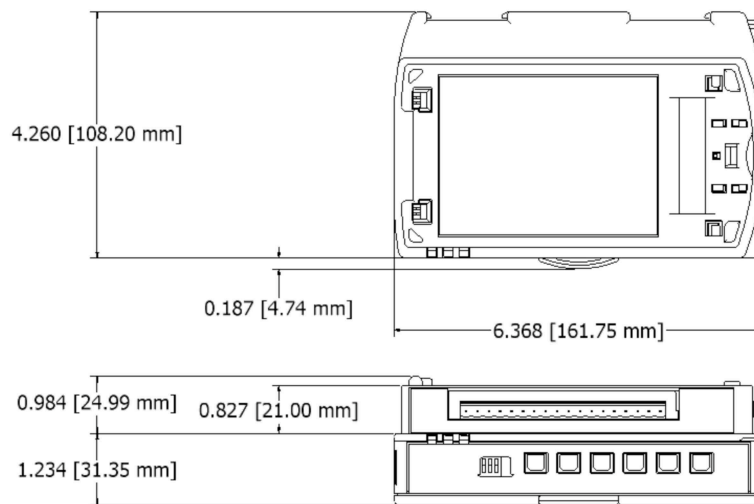

Figure 3 – FOX12 / FOX 30 Dimensions
2. Determine length of DIN-Rail needed. (Refer to **Figure 3**.)